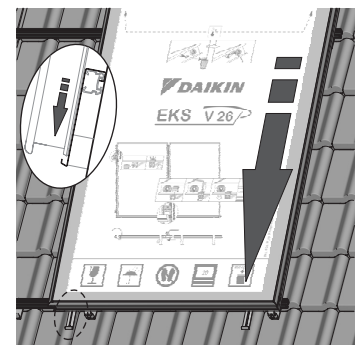

Fig. 3-17 Lowering and aligning the flat solar panel
3. Position the flat solar panel above the mounting rails as shown in Fig 3-17, and carefully lower it into the securing hooks.